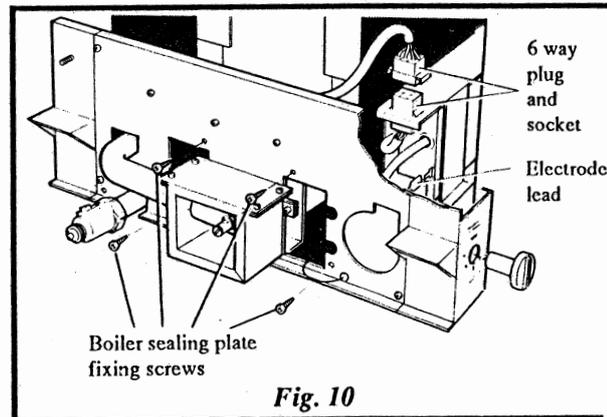

Fig. 10
- Disconnect the 6-way plug and socket, see Fig. 10, on top of the ignition control box mounting bracket.
- Disconnect the electrode lead, see Fig. 10, from the ignition control box.
- Remove the four screws, see Fig. 10, securing the boiler sealing plate assembly and withdraw the complete burner assembly.